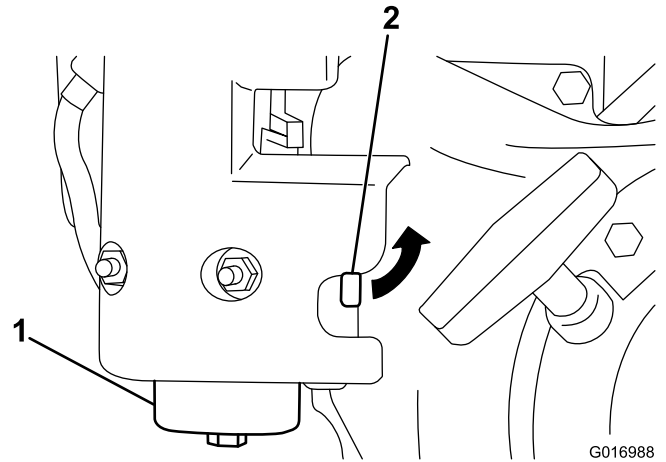

Figure 28
- Close the fuel shut-off valve and unscrew the bowl from the filter body (Figure 28).